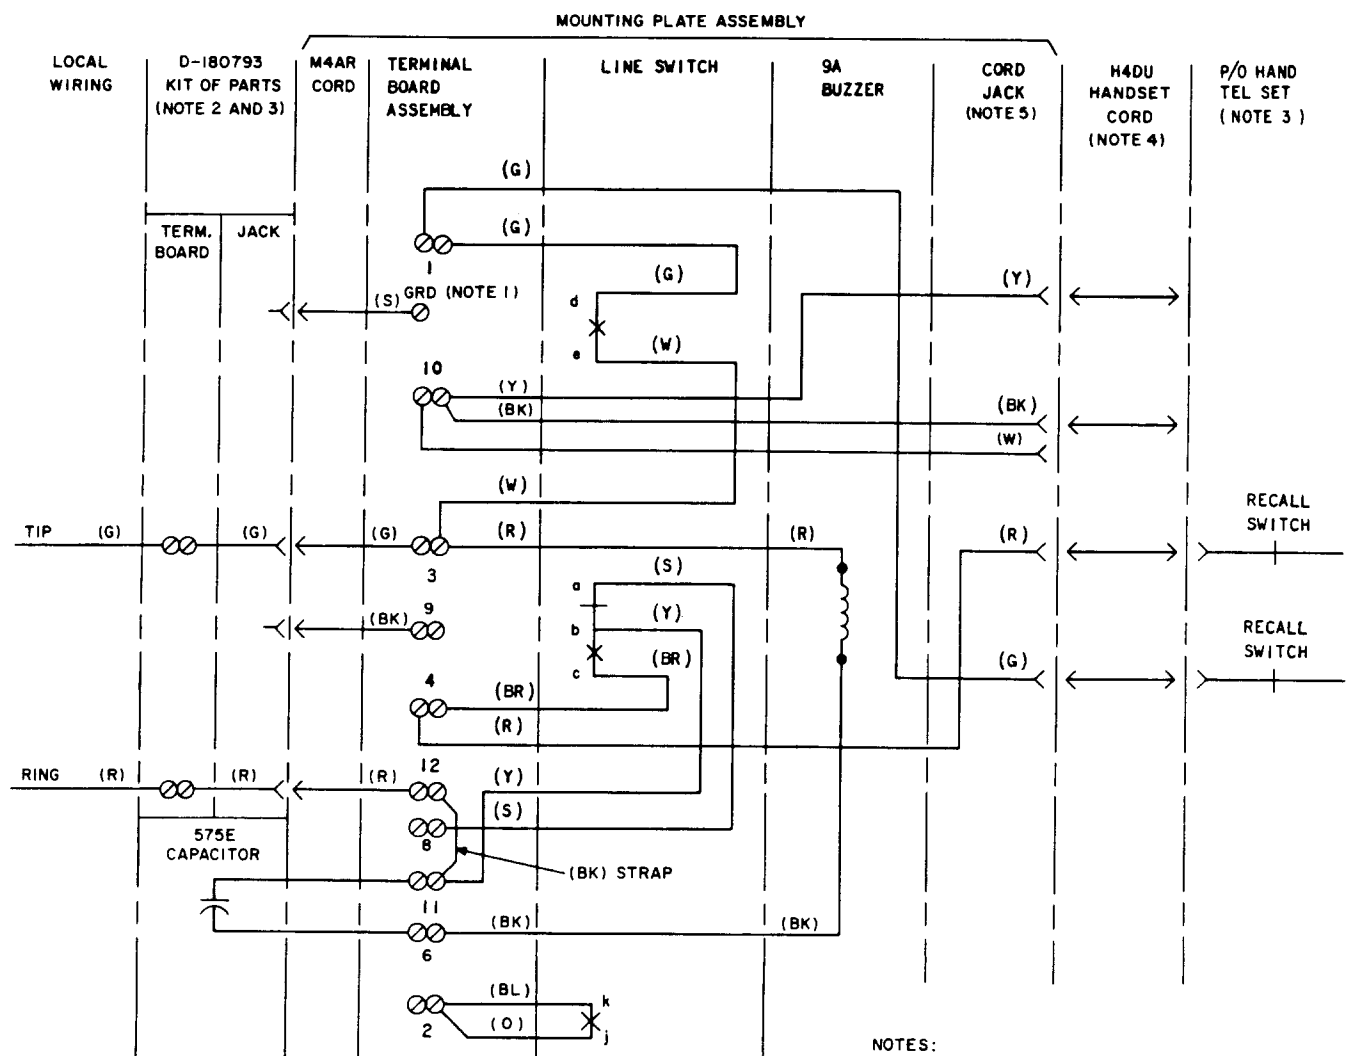

Fig. 9—AL1 Telephone Base and Hand Telephone Set, Connections
- 4.01** For wiring and connections of the AL1 telephone base, refer to Fig. 9.